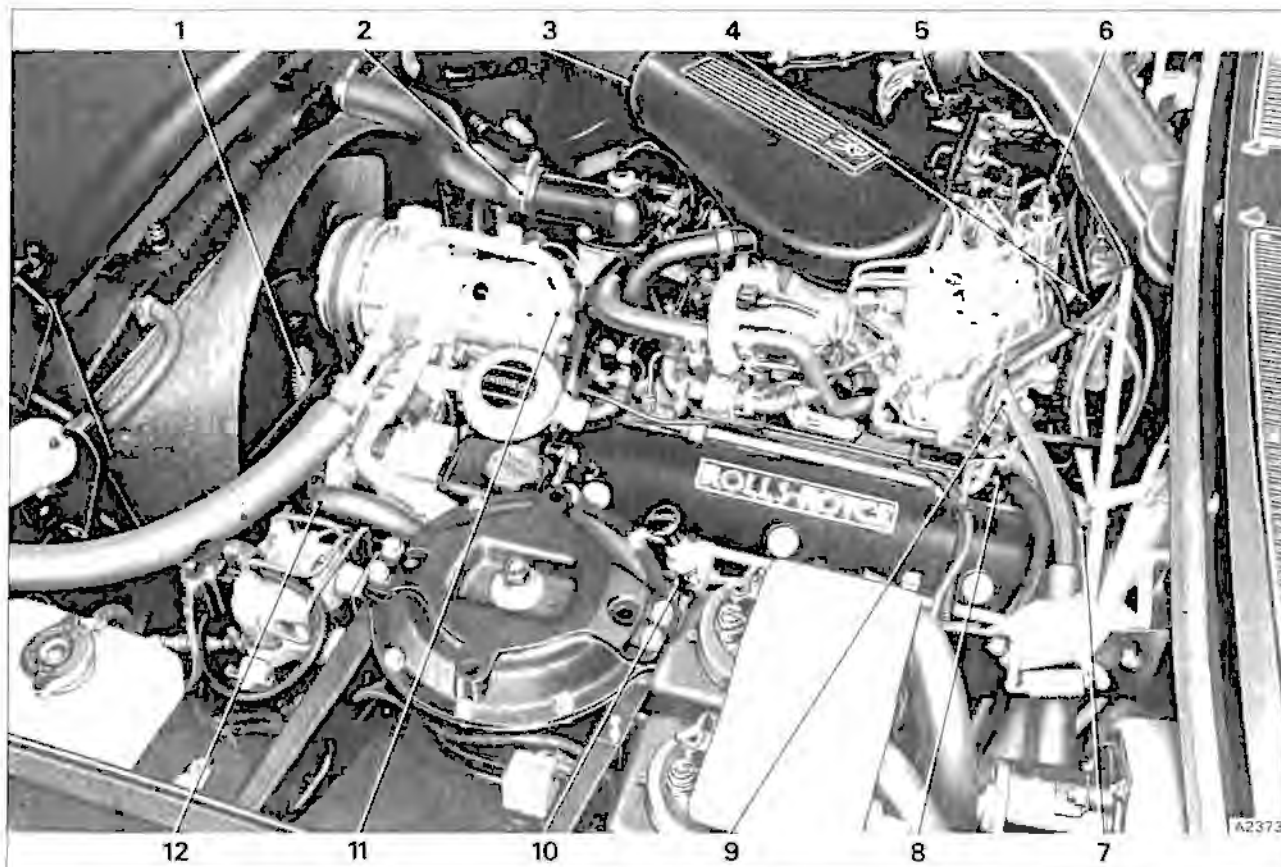

Fig. H3-2 Component disconnection points
12. Disconnect the two refrigeration pipes situated adjacent to the refrigerant compressor (see fig. H3-2).